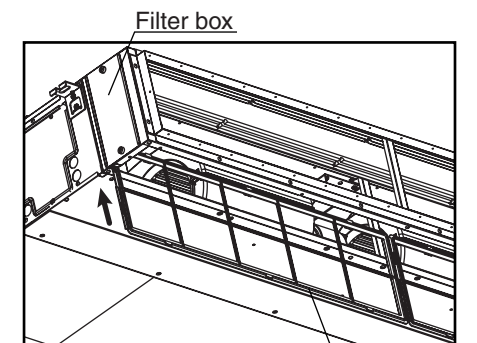

Fig.4-2-2
(2) Insert the filter that was removed in step 3-1 above through the bottom of the filter box. (Fig. 4-2-2)